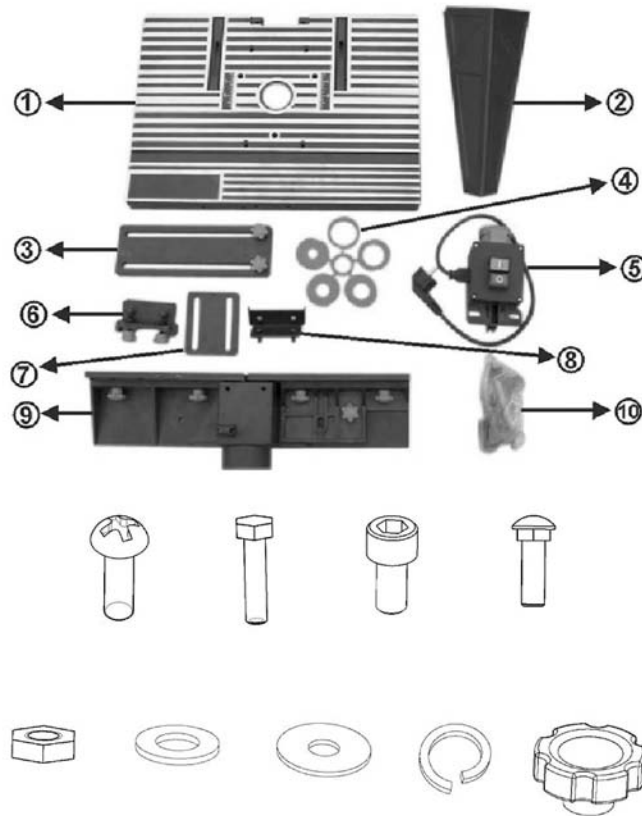

Fig.1
- Place the tabletop (1, fig.1) upside down on a level surface (fig. 2).
- Fit a table leg (2, fig. 1) using the four hex bolts (M6X1 2) and nuts (M6), without fully tightening them (fig. 3).
- Fit the fence (9, fig. 1), using the supplied hex bolts, washers and nuts. Insert the bolts from the underside of the table via the holes marked "A" (fig. 5). Place the fence on the bolts and tighten with the washers and nuts.
Fitting the fence (7, fig. 1)
- Loosen all the fittings on the guide for the fence pressure pad (6, fig.1).
Fitting the table pressure pad (3, fig. 1)
- Loosen two screws on the guide for the table pressure pad (8, fig. 1) and align the holes to the two holes on the front wall of the table.
Fitting the switchbox (5, fig. 1)